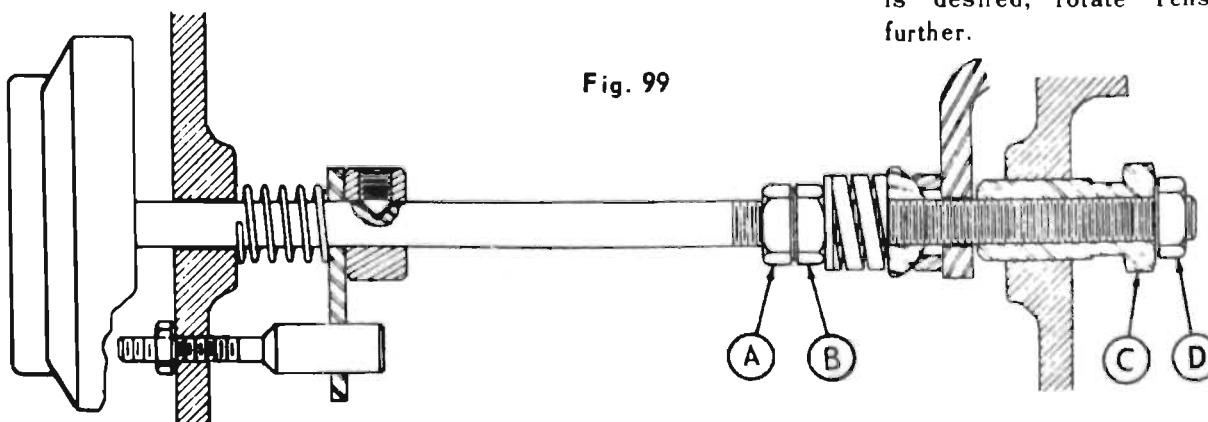

Fig. 99
- b. Loosen locknut "D" (Fig. 99).